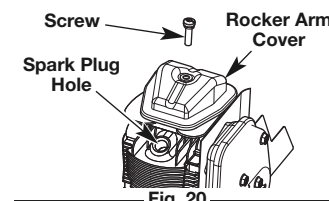
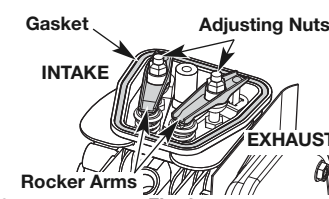

Fig. 20
Fig. 21
6. Remove the screw from the rocker arm cover with a flat-head screwdriver or T-25 Torx screwdriver (Fig. 20). Remove the rocker arm cover and gasket (Fig. 21).
7. Look into the spark plug hole (Fig. 20) and pull the starter rope slowly to move the piston. Make sure: